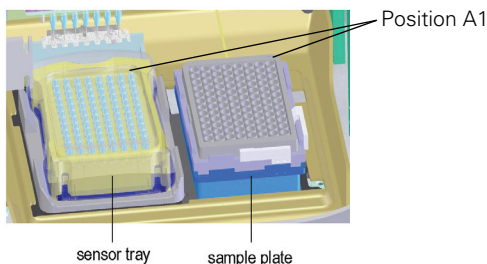

Figure 6.6 Sensor stage (left) and sample stage (right)
2. Place the sensor tray on the sensor stage (left side) so that position A1 is located at the upper right corner (Figure 6.6).